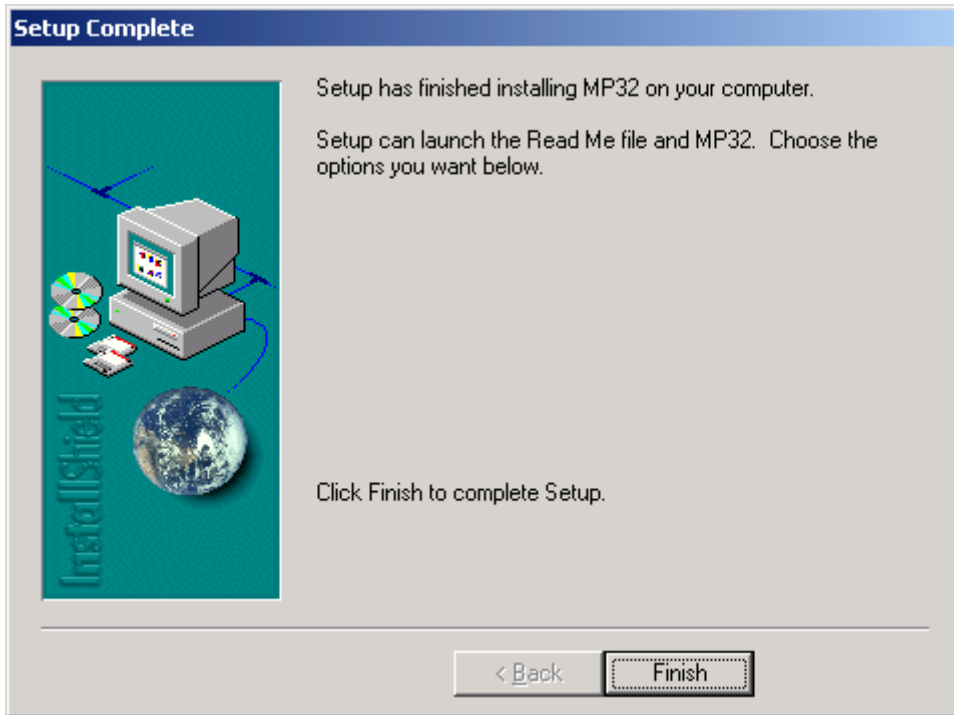

Figure 11 – MP32 Installation – Setup Complete
7. Figure 11. Setup Complete – On the final installation screen, click <Finish> to complete the installation process. You are now ready to configure your system.